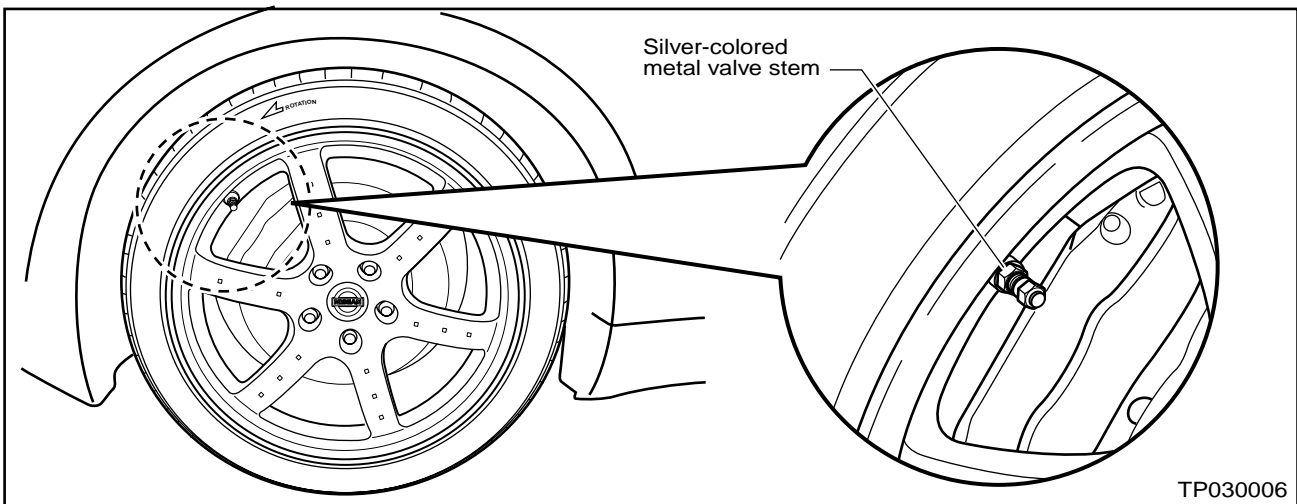

Figure 6
- B. If the valve stems are **silver-colored metal-type** (see Figure 6):